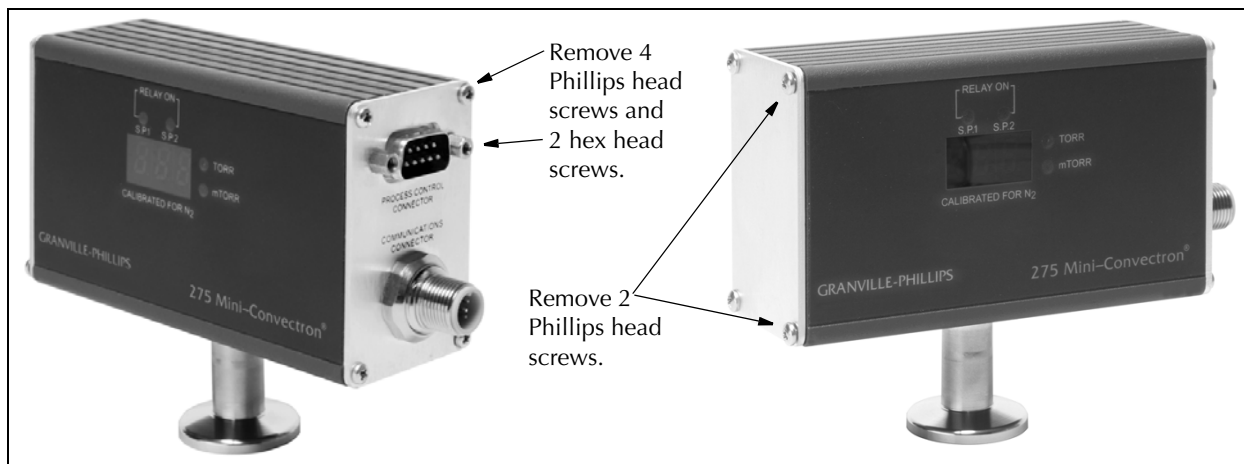

Figure 6-1 Remove Screws to Open the Mini-Convectron Module
1. Use a 3/16-inch nut driver or socket to remove the two hex head screws that connect the 9-pin connector to the connector plate. See Figure 6-1.
2. Use a #1 Phillips screwdriver to remove the four Phillips-head screws from the connector end plate. See Figure 6-1.
3. Use a #1 Phillips screwdriver to remove only two of the four Phillips-head screws from the end plate without connectors. See Figure 6-1.